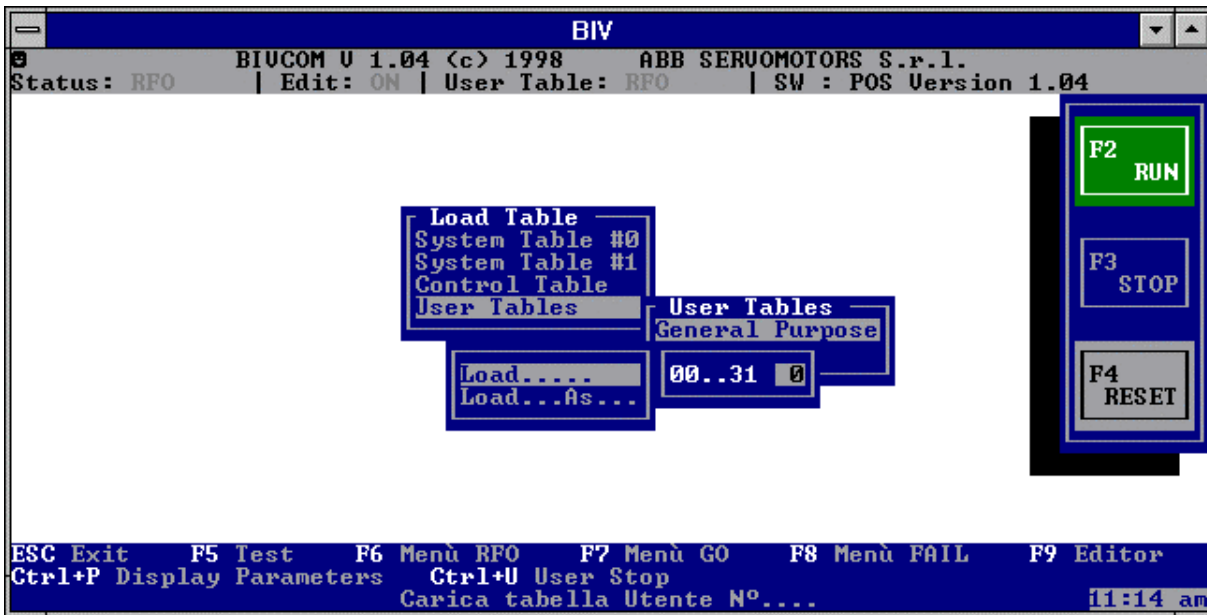
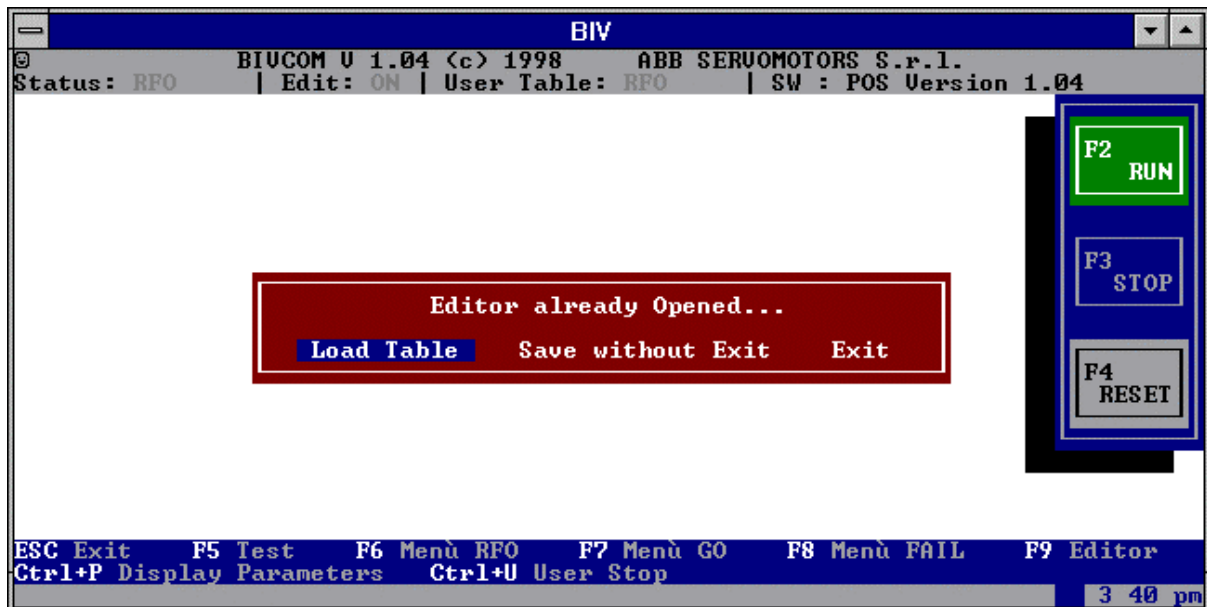

Fig. 7-8: Edit Menu – It loads the general user table No. ...
Fig. 7-9: Edit Menu - Editor Message Already Opened
This menu allows to access commands/functions, hierarchically structured; the structure is indicated below. See the following figures: Fig. 7-7, Fig. 7-8, and Fig. 7-9.
Area C displays the message "Open Edit?"; confirm "Yes" <CR>; if editor is already opened, the message "Editor already Opened" is displayed; see Fig. 7-9, with the following options:
- Load . . . 00 . . 31 [**] (it loads the general user table No. ** chosen). In the appropriate box, type the number of the table chosen; (see Fig. 7-8); parameters will be shown afterwards; only the highlighted parameters can be modified by user)